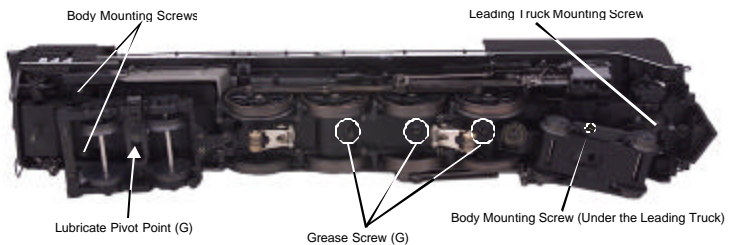

Figure 7. Location of Body Mount Screws and Greasing Points on the Locomotive
You should also grease the leading and trailing locomotive truck tongues to enhance their ability to slide on the chassis. Follow the grease points shown on Fig. 7.
1. Remove the boiler from the engine (see Fig. 7 on pg. 12). To do this, unscrew the leading truck bracket and move it aside to access the front body mount screw. Remove the one front and two rear body mount screws and carefully lift the boiler from the chassis, being careful to leave the wires attached.